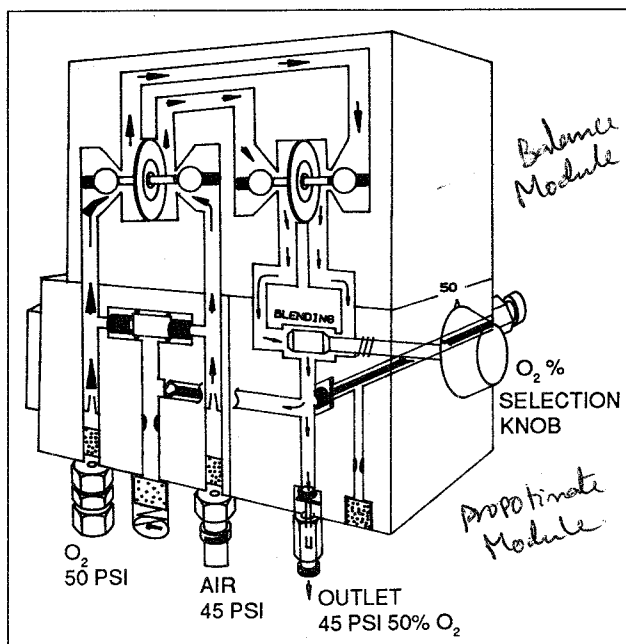

Figure 4
■ PROPORTIONING MODULE (FIGURE 4)